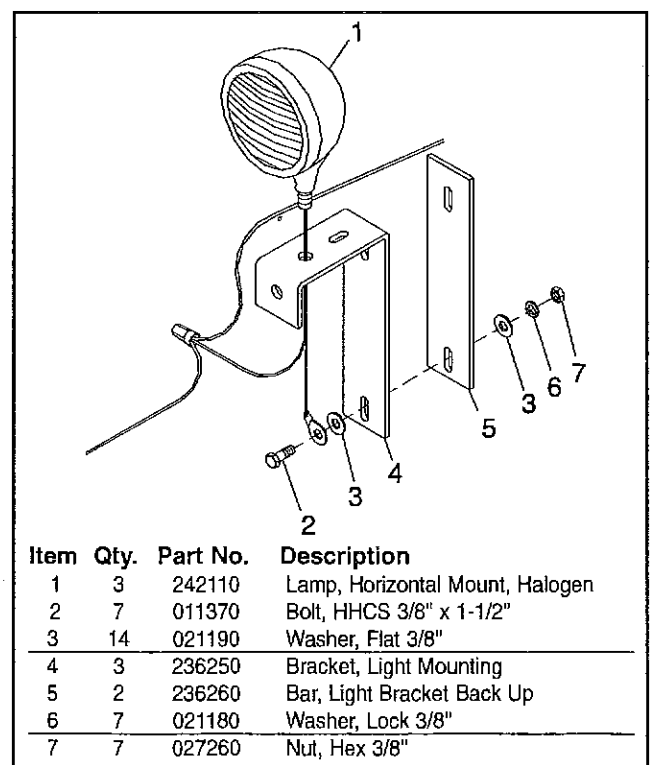

Figure 3.25: Work Light Components.
1. (Refer to Figure 3.25.) Choose locations where the three lights are desired during operation after dark. Position brackets to mount the lights in chosen locations.